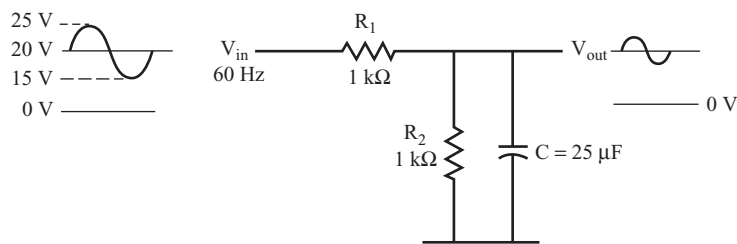

FIGURE 6.35
For the circuit shown in Figure 6.35, you can calculate the AC and DC output voltages separately by following the steps outlined in the following questions.
- B.** For the circuit in Figure 6.35, determine through which circuit components DC signals will flow. Then use the voltage divider formula to find DC V_{out} .
- C.** For the circuit in Figure 6.35 determine which circuit components AC signals will flow through. Then use the voltage divider formula to find AC V_{out} .